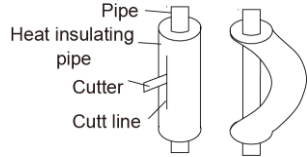

Fig. 4.11
- (1). Do not bend the pipes in an angle more than 90°.
- (2). When pipes are repeatedly bent or stretched, the material will harden, making it difficult to bend or stretch them any more. Do not bend or stretch the pipes more than three times.
- (3). When bending the pipe, do not bend it as is. The pipe will be collapsed. In this case, cut the heat insulating pipe with a sharp cutter as shown in Fig. 4.11, and bend it after exposing the pipe. After bending the pipe as you want, be sure to put the heat insulating pipe back on the pipe, and secure it with tape.